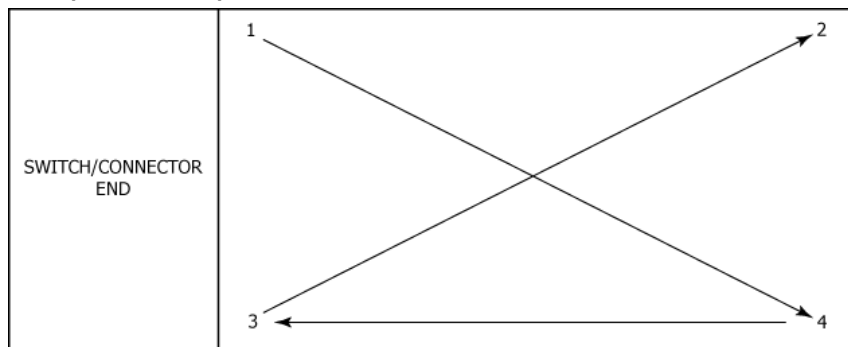

Figure 23 Battery Pack Retaining Screw Tightening Pattern
- 11) Tighten and torque the screws as shown in Figure 23 Battery Pack Retaining Screw Tightening Pattern. Torque to 6-8 lb-in (68-90 N•cm).